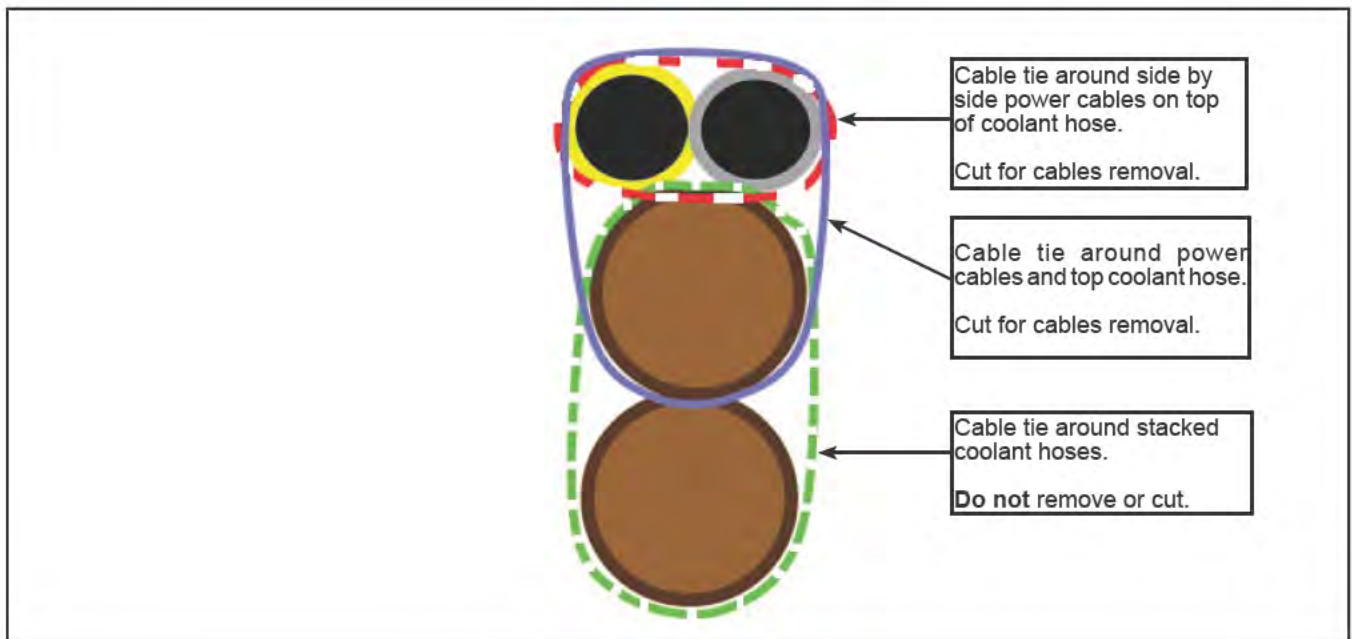

Figure 3 - Cable Tie Positions
- 1.8. Cable ties must be installed as shown in Figure 3. Tighten the cable ties starting from the center of the EGS and make sure that the cables are routed side by side over the top coolant hose.